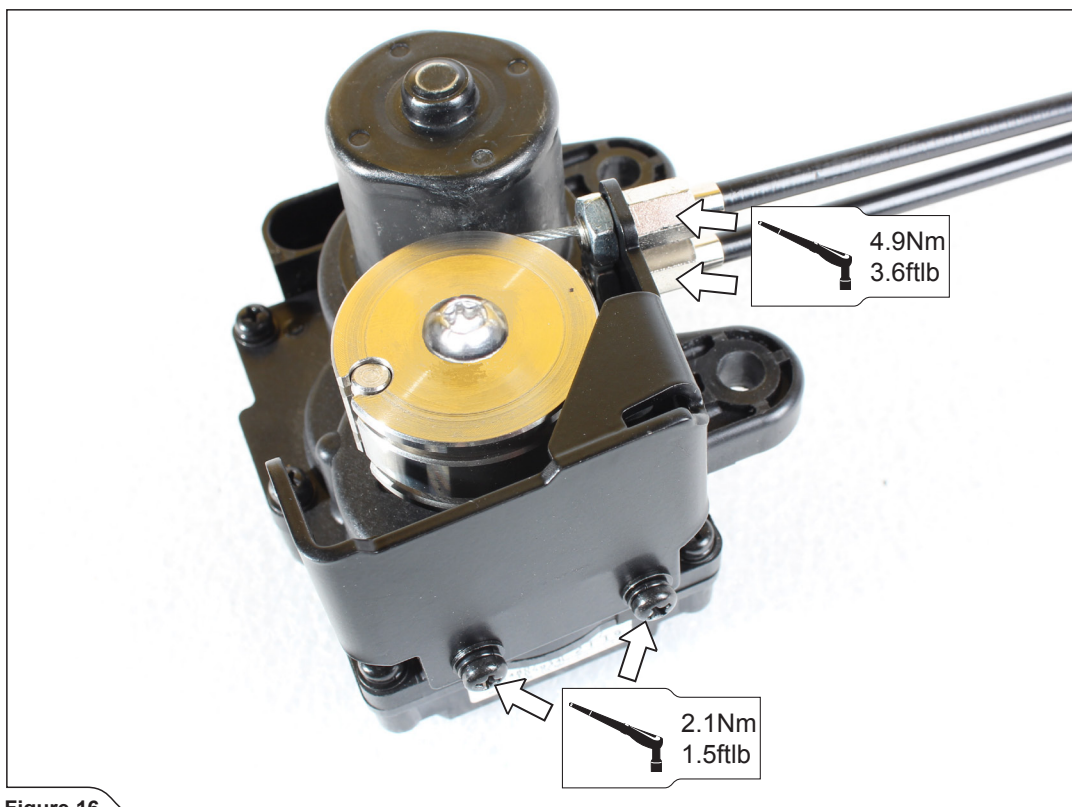

Figure 16
3. Tighten the cable bracket onto the servo motor and cables onto the bracket, as shown (Figure 16).